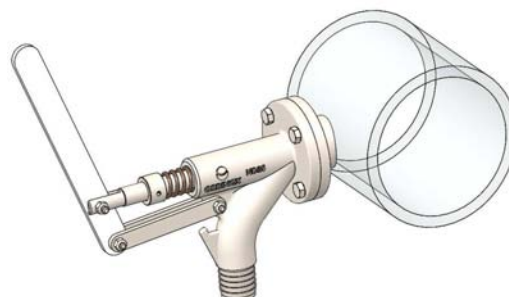

Fig. 3
4. Fit the valve to the flange fitting (2) and do not forget to put the O-ring (8) back. (Fig.3)